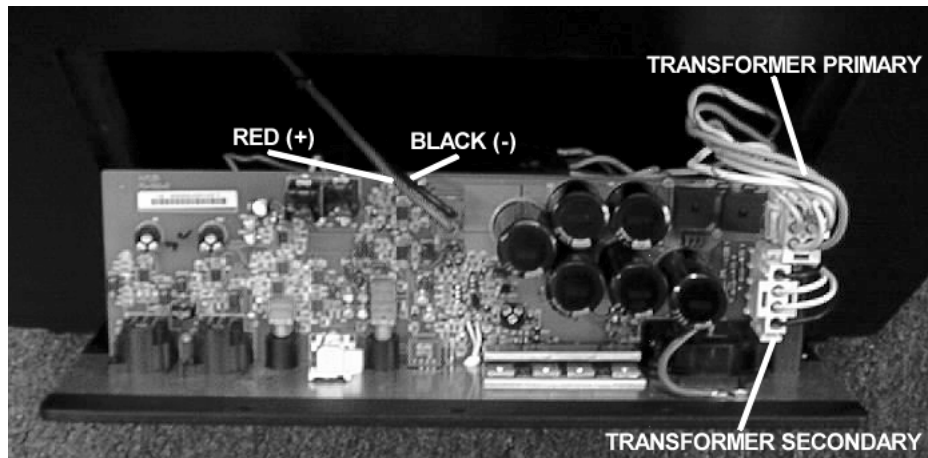

FIG. 1
1. Remove (10) screws from amplifier using a Phillips screwdriver
3. Disconnect the (2) speaker wires (**FIG. 1**)
4. Disconnect the transformer primary molex (**FIG. 1**)
5. Disconnect the transformer secondary molex (**FIG. 1**)